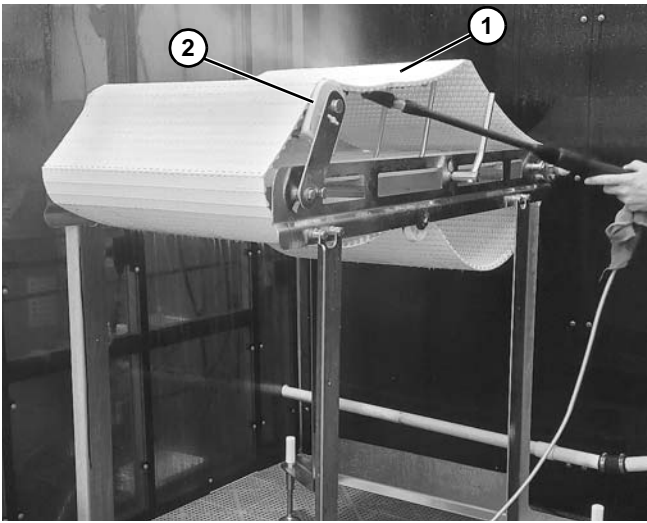

Figure 5
- a. Under belt (**Figure 5, item 1**) and around tail end (**Figure 5, item 2**) idler pucks.